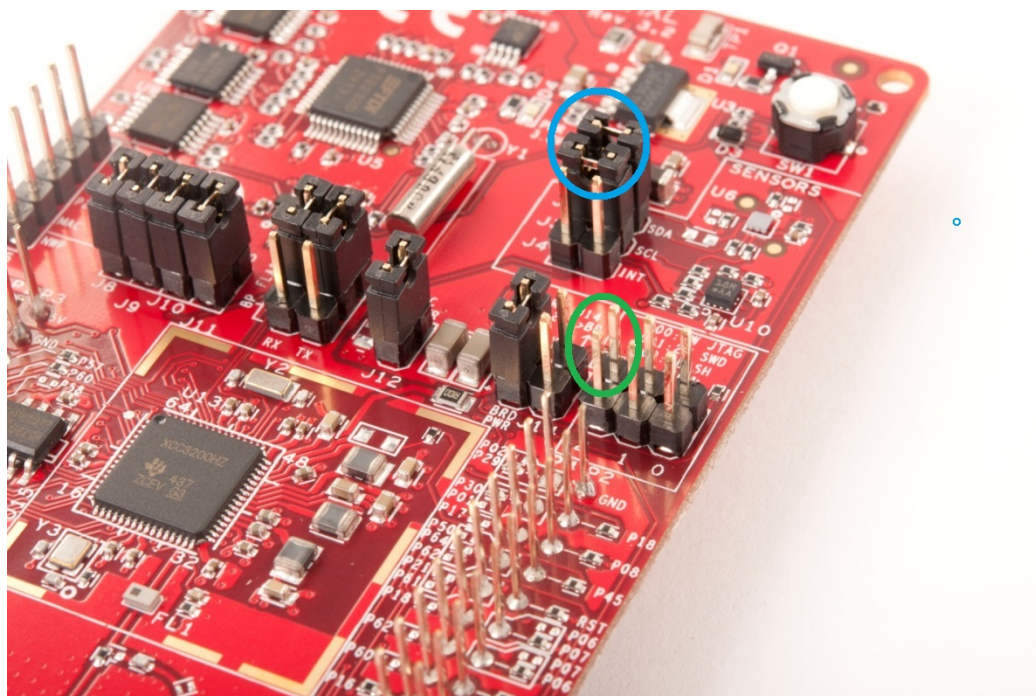

Figure 2-2. CC3200-LAUNCHXL Configuration
1. Once the binaries are flashed, remove jumper J15 on SOP2 of the CC3200-LAUNCHXL, and reset the board (refer to the green circle in Figure 2-2).
2. Jumpers J2 and J3 should be closed (refer to the blue circle in Figure 2-2).